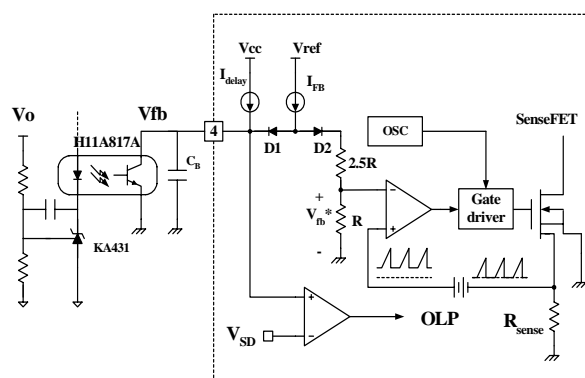

Figure 5. Pulse Width Modulation (PWM) Circuit
2. Feedback Control : FSES0765RG employs current mode control, as shown in figure 5. An opto-coupler (such as the H11A817A) and shunt regulator (such as the KA431) are typically used to implement the feedback network. Comparing the feedback voltage with the voltage across the R_{sense} resistor plus an offset voltage makes it possible to control the switching duty cycle. When the reference pin voltage of the KA431 exceeds the internal reference voltage of 2.5V, the H11A817A LED current increases, thus pulling down the feedback voltage and reducing the duty cycle. This event typically happens when the input voltage is increased or the output load is decreased.
2.1 Pulse-by-pulse Current Limit: Because current mode control is employed, the peak current through the Sense FET is limited by the inverting input of the PWM comparator (V_{fb}^*) as shown in figure 5. Assuming that the 0.9mA current source flows only through the internal resistor ($2.5R + R = 2.8 k\Omega$), the cathode voltage of diode D2 is about 2.5V. Since diode D1 is blocked when the feedback voltage (Vfb) exceeds 2.5V, the maximum voltage of the cathode of D2 is clamped at this voltage, thus clamping V_{fb}^* . Therefore, the peak value of the SenseFET current is limited.